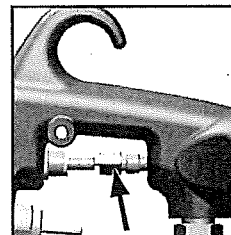

Fig. 8
2. Completely unscrew needle packing nut. (See fig 8)
8. Gently tighten needle packing nut. **DO NOT OVER TIGHTEN.** (See fig 8)
10. Operate gun with fluid and adjust tightness of packing nut as necessary to prevent fluid leak. (See fig 8)